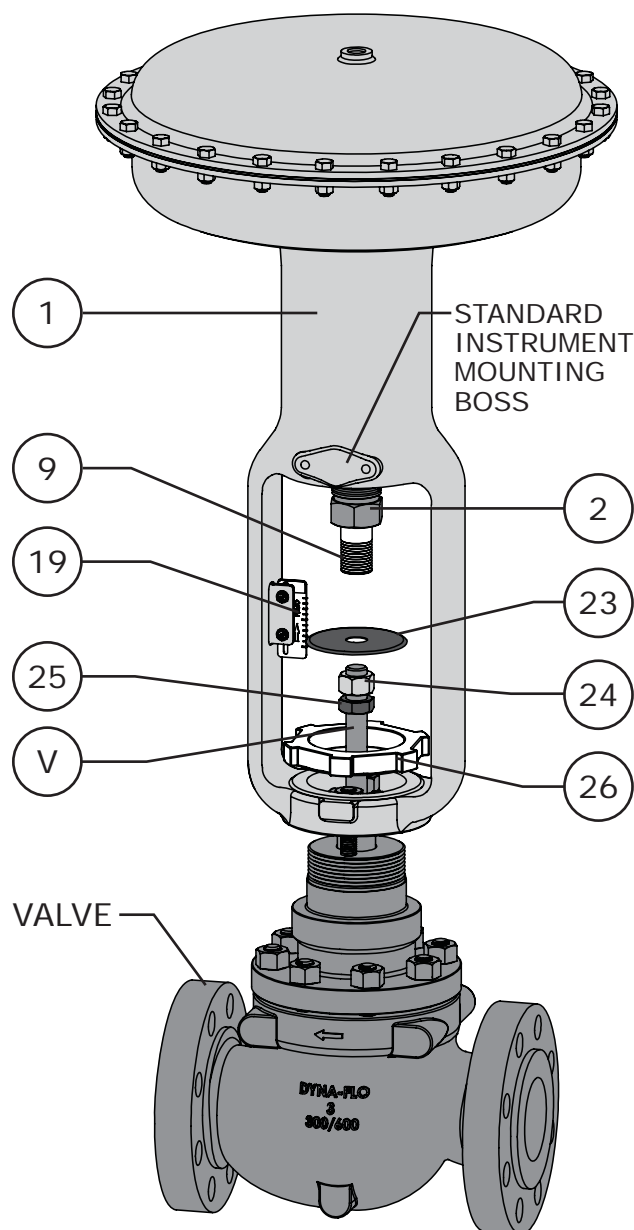

Figure 6 Actuator Mounting
- 5 Carefully lift and lower the actuator into place on the valve body as shown in Figure 6. Refer to UNPACKING VALVE FROM SHIPPING CONTAINER (Page 4) for information on proper lifting techniques. As the yoke passes over the valve stem, insert the yoke locknut (Key 26) and travel disc (Key 23) between the actuator stem (Key 9) and valve stem (Key V) as shown in Figure 6. The travel disc should be placed on top of the hex nut (Key 24) concave side facing towards the valve body.